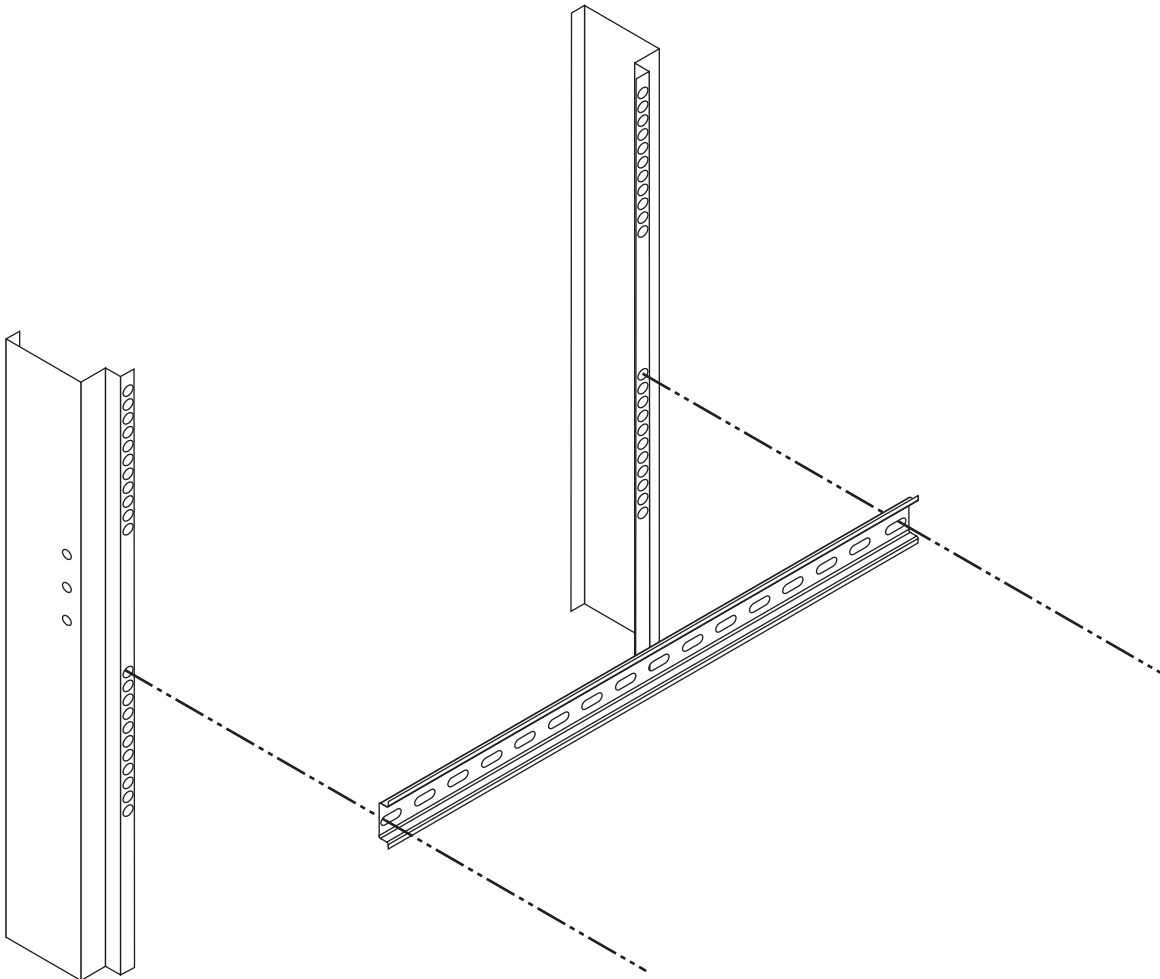

Figure 8. Installing the Rackmount DIN rail onto the rack
1. Place the mounting rail at the desired location on the rack, and secure it using the mounting hardware included in the installation kit as shown in figure 8 on page 21.